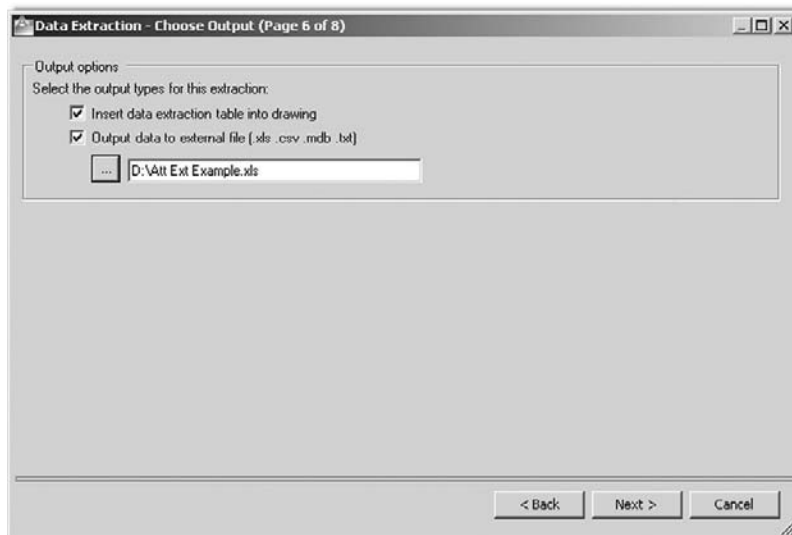

FIGURE 18.16
- Step (Page) 6.** Choose Output (Figure 18.16). Here, we are interested in our destination output. Although the Excel spreadsheet is the one that gets all the attention,